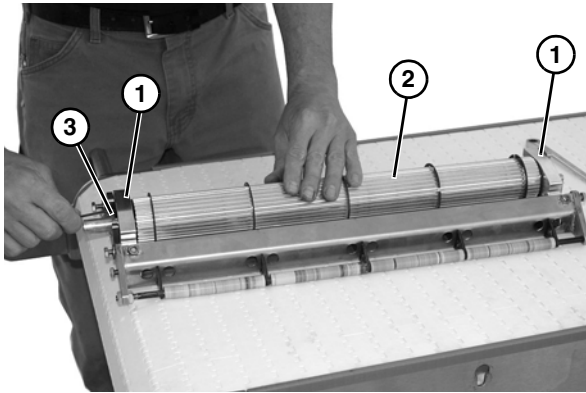

Figure 41
- Center shaft assembly, so that there is equal space between each bracket (Figure 41, item 1) and roller (Figure 41, item 2). Tighten set screws (Figure 41, item 3).